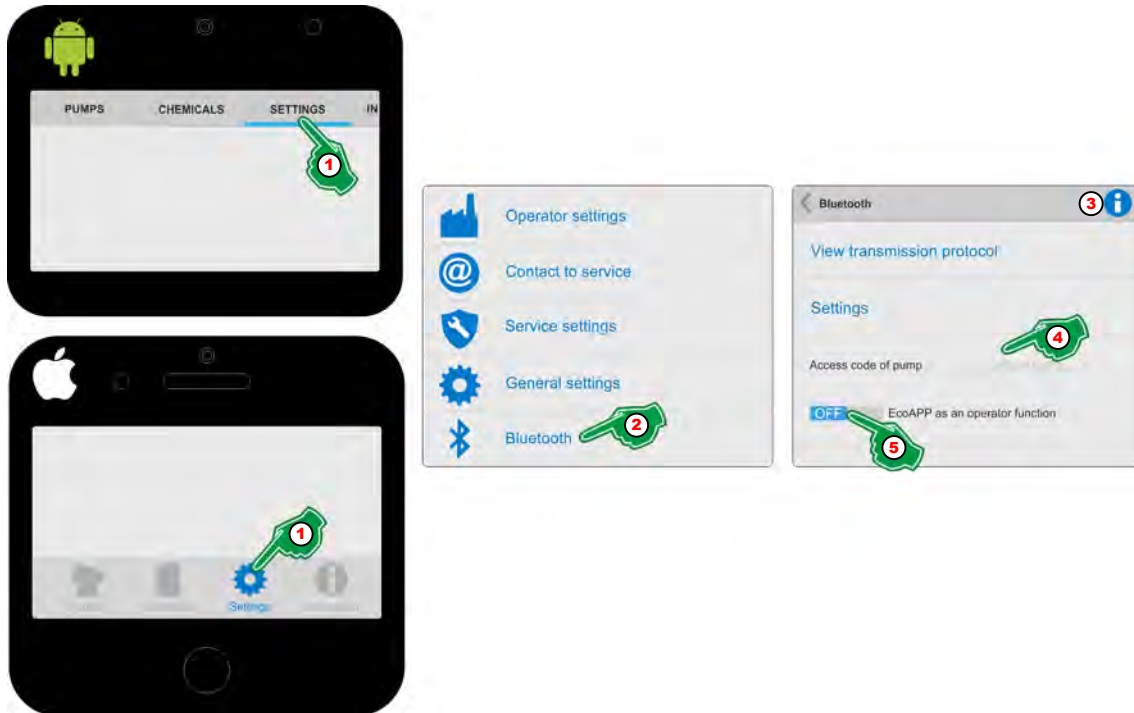

Fig. 59: Set up access 'EcoAPP'
1. ▶ Select [Settings] (Fig. 59, Pos. 1).
2. ▶ Select [Bluetooth]  (Fig. 59, Pos. 2).
3. ▶ With the selection of the [Info]  (Fig. 59, Pos. 3), the symbol display will be:
4. ▶ Enter the 'access code' for the pump (Fig. 59, Pos. 4).